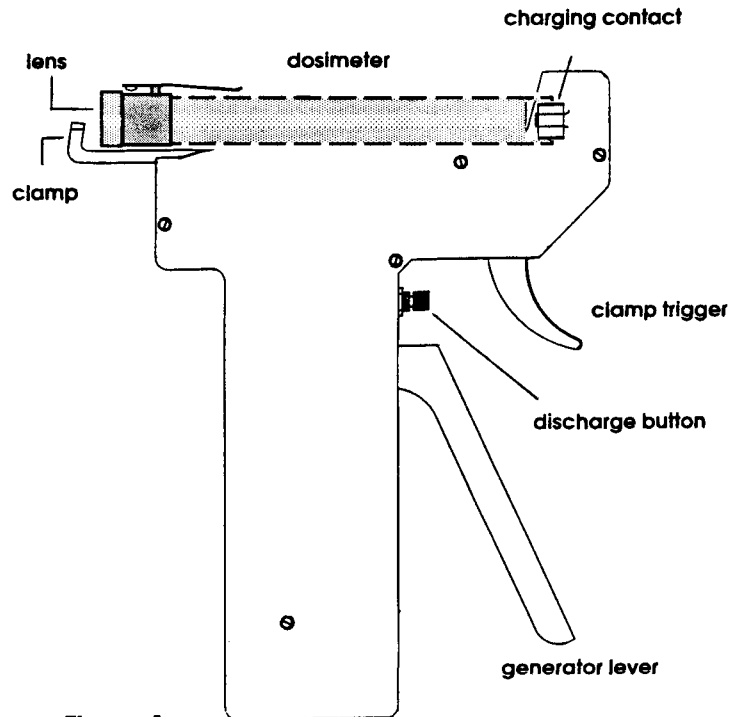

Figure 1
The CDV 750 model 6 dosimeter charger (fig. 1) is used to zero all civil defense dosimeters. The charger is self powered, requiring no batteries. The voltage necessary to charge a dosimeter is generated by squeezing the generator lever. A discharge button allows the operator to set a dosimeter exactly on zero. The clamp trigger pulls back on the clamp to allow a dosimeter to be positioned on the charger or be removed from the charger.
1. Hold the charger upright as shown in fig. 1. Lift the clamp and pull it back to its maximum length. Place the dosimeter in the clamp and fit the dosimeter recess (opposite end from the lens) over the charging contact. This allows for electrical contact between the dosimeter and the charger.